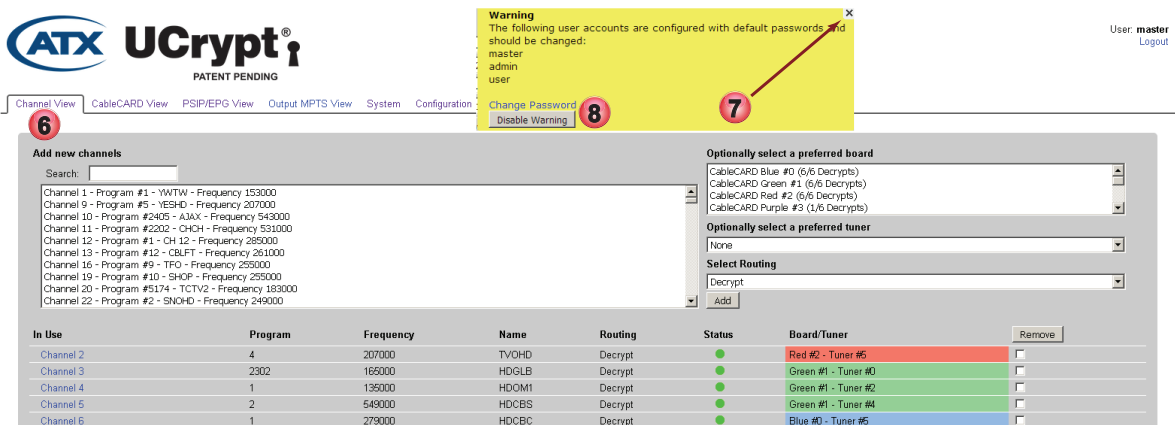

Figure 1-6: Channel View Page
- Following login, the Channel View page is presented, Figure 1-6. Your screen may differ slightly from the example depending on the model and whether the Device has previously applied configuration settings or if it is factory new.